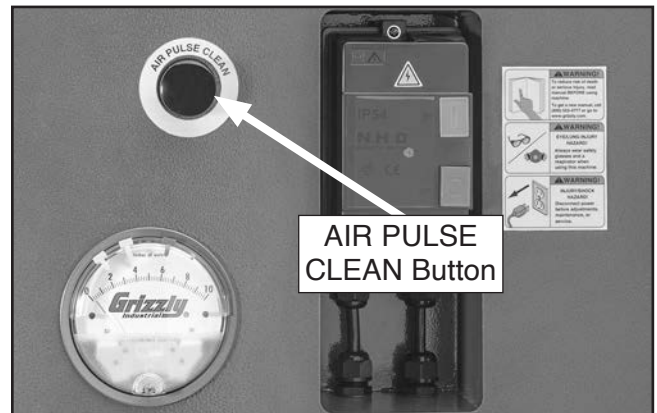

Figure 35. Location of AIR PULSE CLEAN button.
3. Press AIR PULSE CLEAN button one or two times (see **Figure 35**).